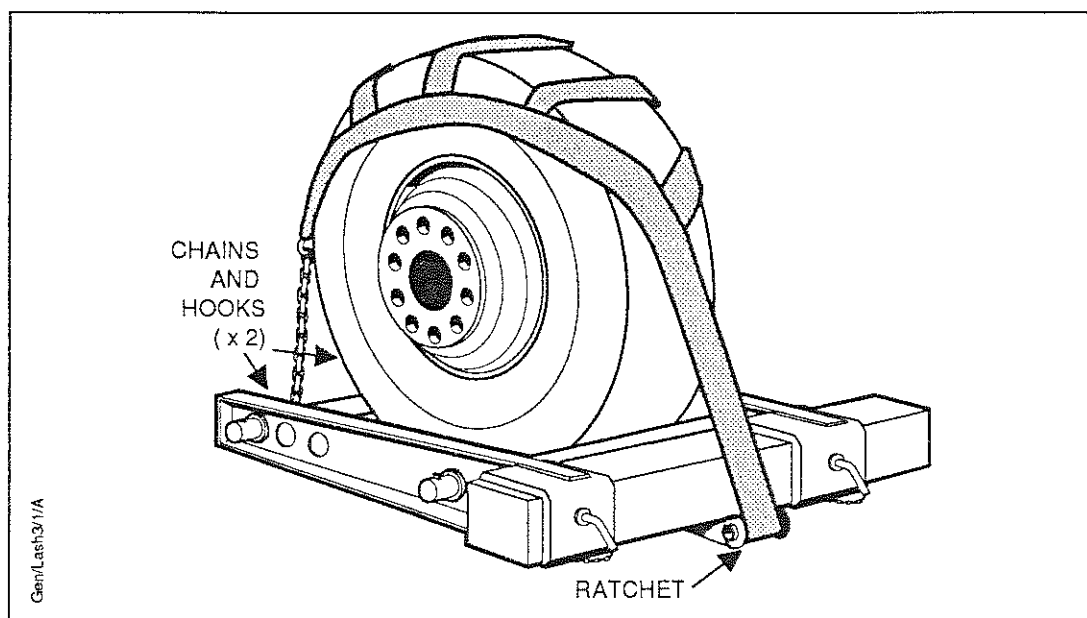

*Figure 12 - Restraint against acceleration*
- 3.3.3 When the recovery vehicle accelerates, the casualty will tend to get left behind. This is a similar effect to 3.3.2. above, but lesser in extent. This can be countered by using a nylon strap and hand ratchet. Ideally the ratchet should have a short 'tail' fitted with a means of attaching to a chain from an anchor point. The nylon strap should have a cargo hook to connect to the fork pedestal. Tension with the hand ratchet. See Figure 12. Again it is recommended that the path of the restraining strap should lie near to horizontal.